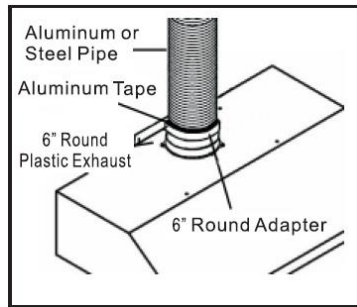

Fig. 2d
- m. Connect 6" ducting to the collar of the unit and secure it with aluminum tape. **(Fig. 2d)**